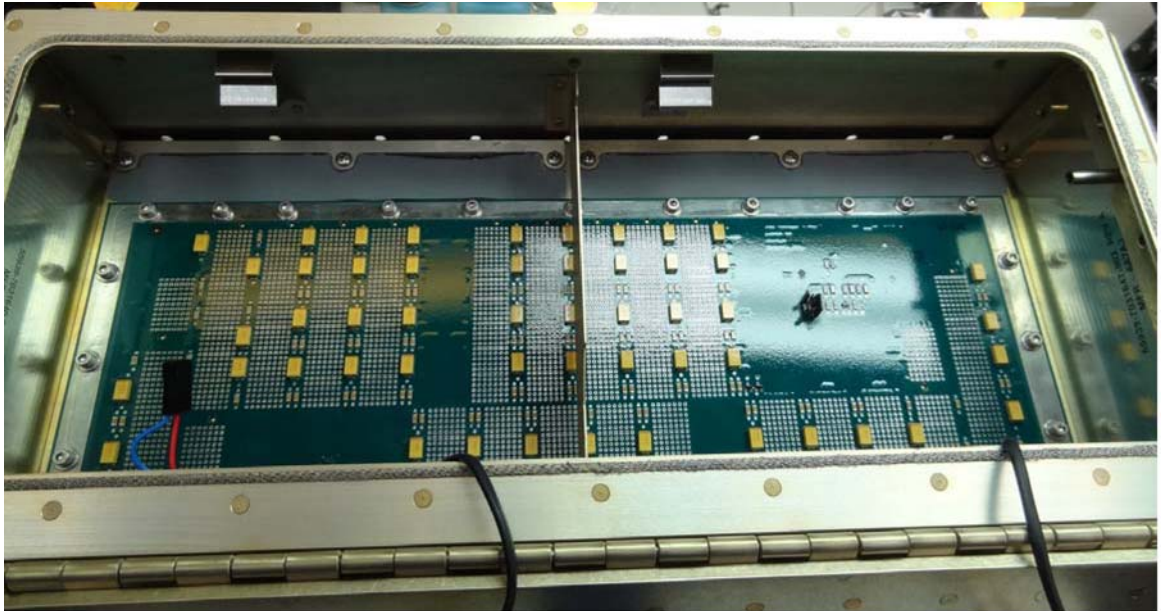

Figure 2. (Sheet 1 of 1) Baffle Flappers Positioned Correctly
- (2) Figure 2 shows a view from the aft-end of the MAU-12L with the baffle flappers positioned correctly and free to open.